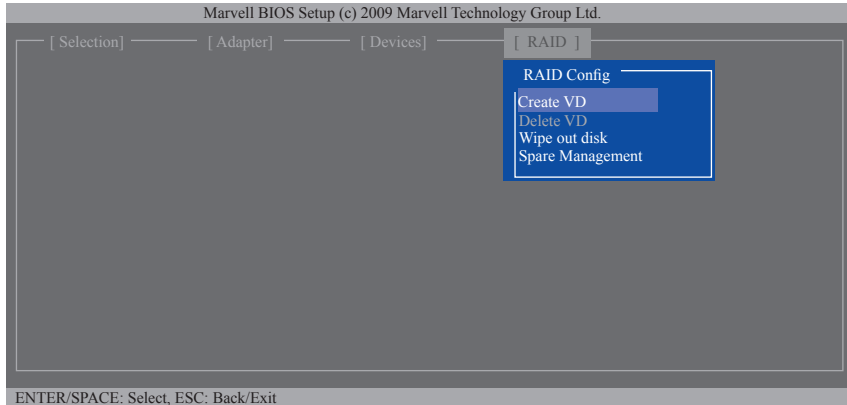
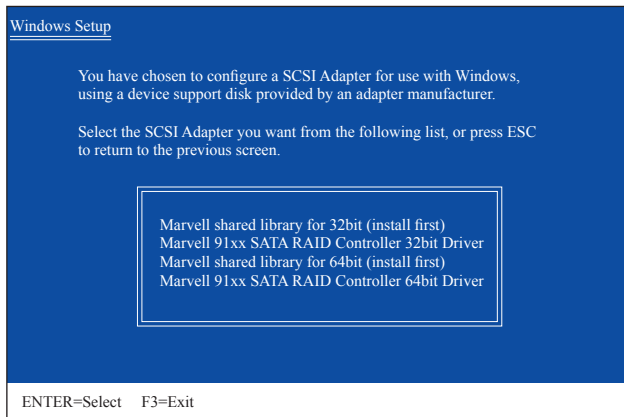

Figure 4
Figure 3
Step 1: On the main screen, press <Enter> on the **RAID** tab. Then the **RAID Config** menu appears (Figure 4). Press <Enter> on the **Create VD** item.
Insert the floppy disk containing the SATA RAID/AHCI driver and press <Enter>. Select either the 32-bit or 64-bit items depending on whether you want to install the 32-bit or 64-bit version of Windows XP (Figure 3). Both of the **Marvell shared library** and **Marvell 91xx SATA RAID Controller** need to be installed. Below we assume that you are installing the 32-bit version. First select **Marvell shared library for 32bit (install first)** and press <Enter>. On the next screen, press <S> to return to the screen in Figure 4. Then select **Marvell 91xx SATA RAID Controller 32bit Driver** and press <Enter>. When both of the two drivers appear on the confirmation screen, press <Enter> to continue the driver installation.